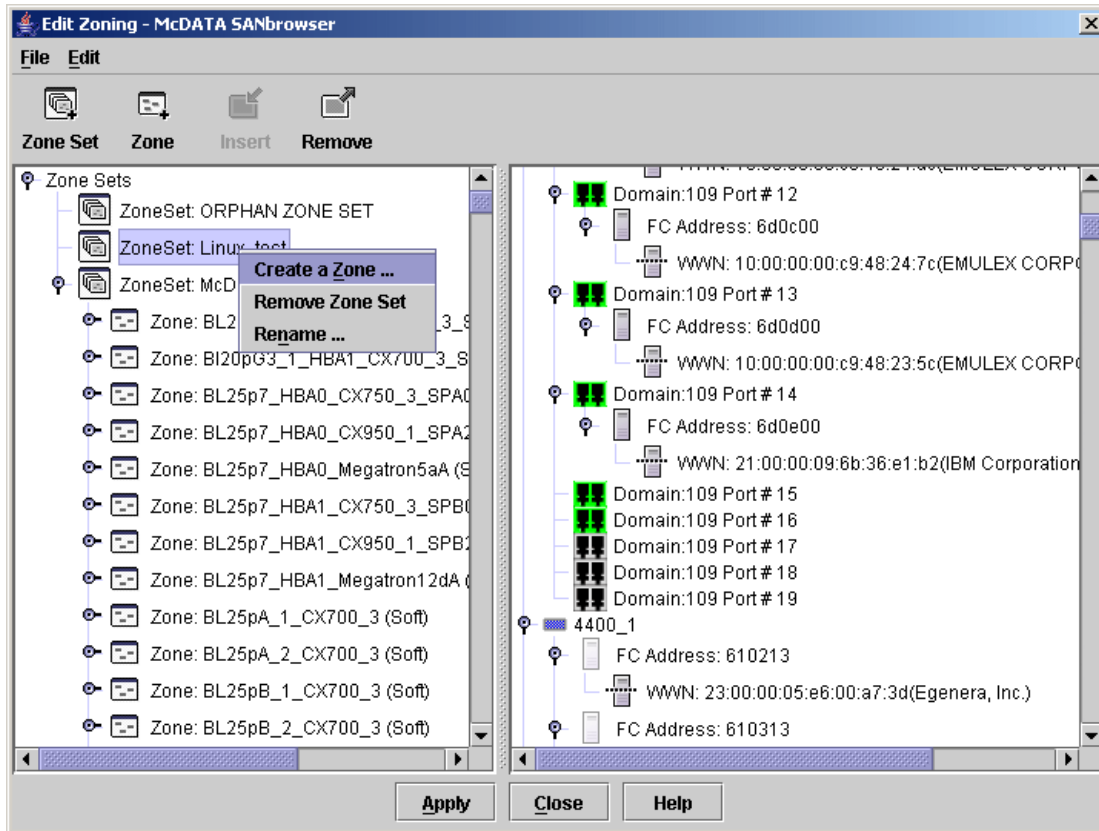

Figure 8-21 Zoning switches listed window
11. Click the **Zone Set** icon to create a zone set. You will see a window similar to Figure 8-21 on page 244.
12. Type in a zone set name. For our example, we typed `Linux_text`. Click **OK**. The window shown in Figure 8-21 should appear.